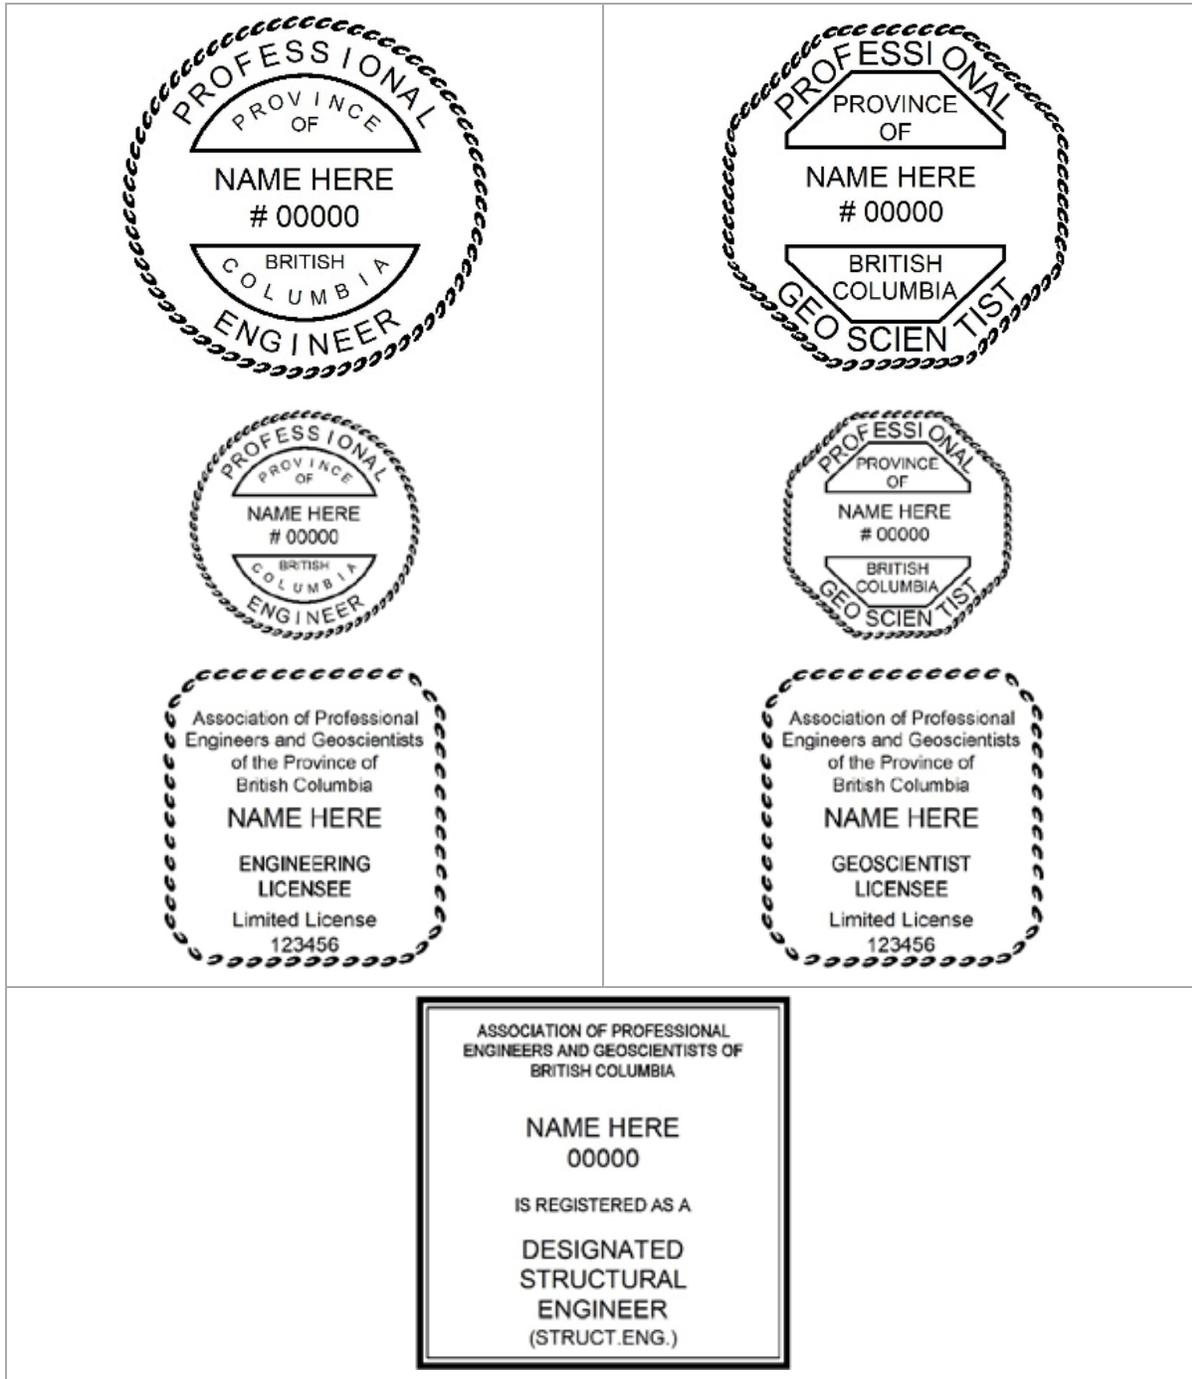

FIGURE 1: Examples of Engineers and Geoscientists BC Seals
3.6.2.3 Refer to **Figure 1: Examples of Engineers and Geoscientists BC Seals** at the end of this section for examples of the various professional Seals.